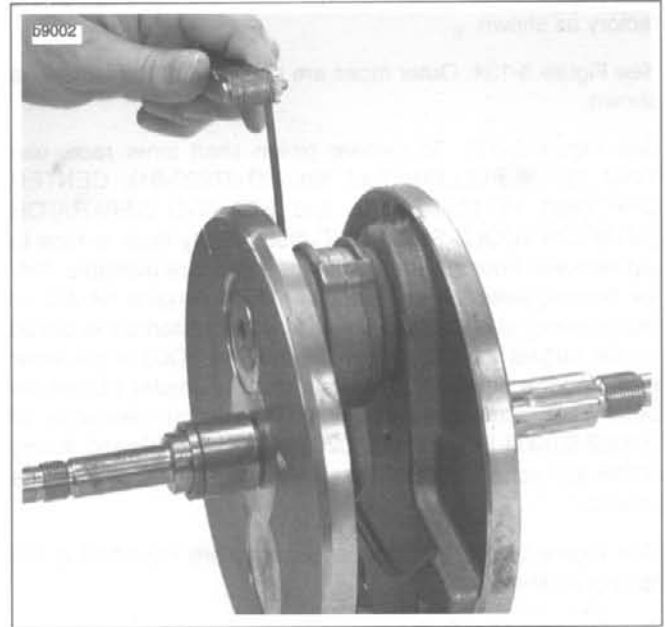

Figure 3-132. Checking Connecting Rod Side Play
3. See Figure 3-132. Check connecting rod side play.